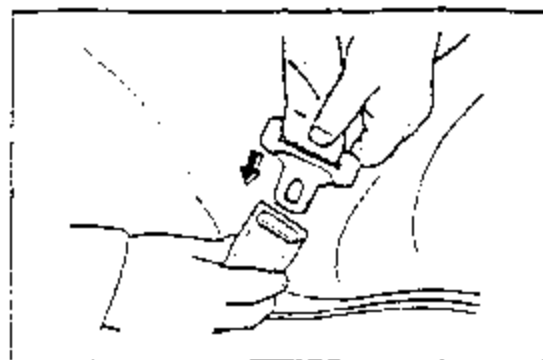

Fig. 3
- e. Insert the metal tongue plate into the belt buckle assembly until it clicks. Then tug on the belt several times to make sure that the latch is securely locked. (See Fig. 3)